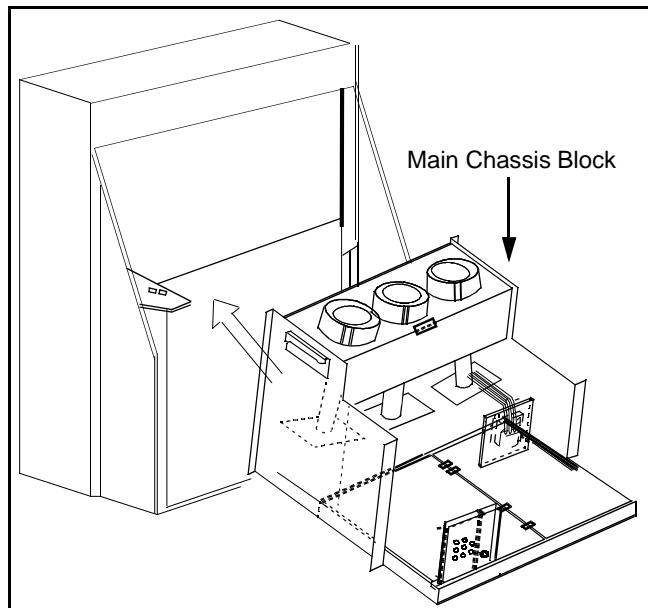

**Figure 10.** Screen Assembly
## Screen Assembly (Fig. 10)
4. Note exact orientation and order of each screen. The orientation and order of the screens is critical for displaying pictures properly. Detailed screen assembly can be seen in Fig.10.
**Note:** Assemble with screws in the order as indicated in Fig. 10 and tighten with same torque.